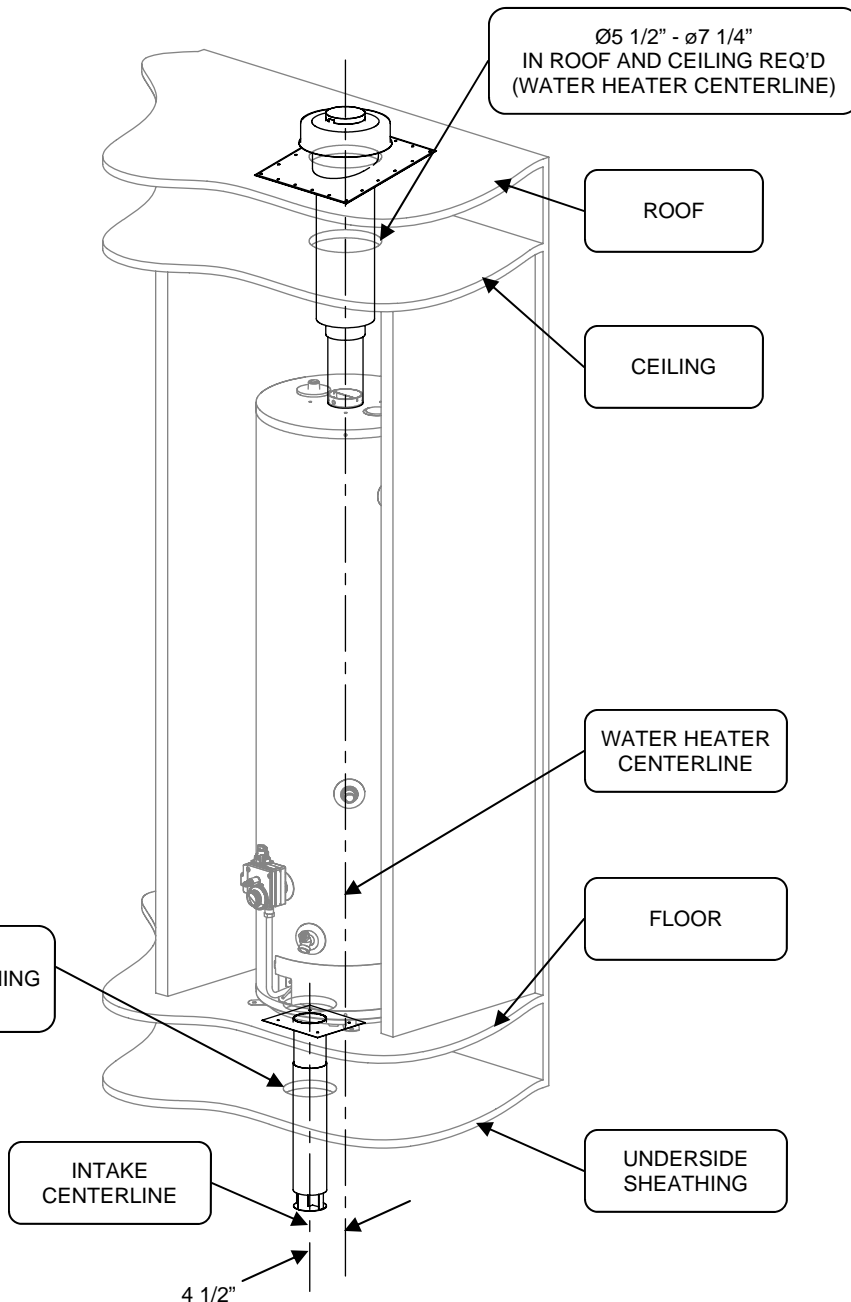

Figure 1
Step 4. Mark the intake centerline (4 1/2" toward the front of the water heater centerline) on the floor and cut a 4 3/4" diameter hole in the floor and the underside sheathing (see Figure 1).